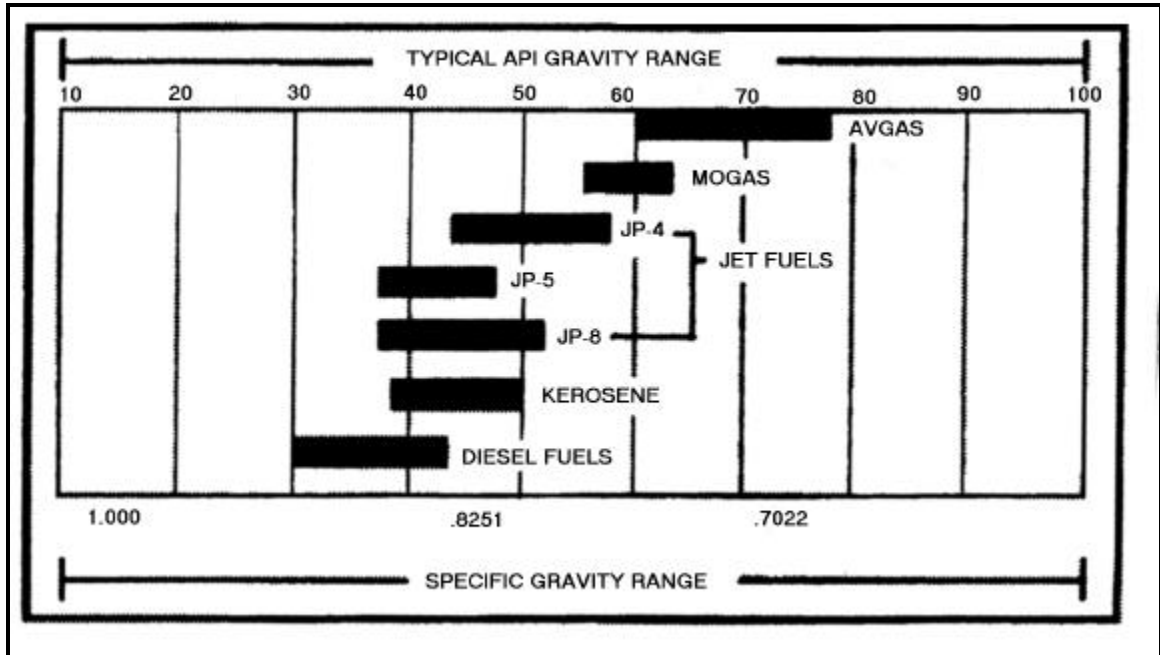

Figure 8-3. API and specific gravity scale for petroleum products
- Gravity Difference. Batch changes may be detected by differences in gravity of two adjacent products. There may be a great difference, as between MOGAS and JP-8. There may be little difference, as between DF-1 and DF-2 (Figure 8-3, page 8-4).